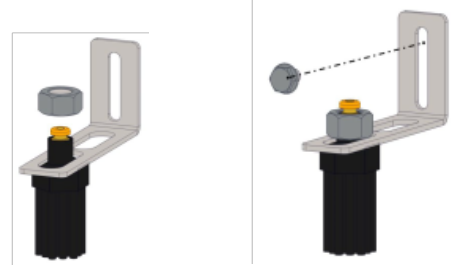

Figure 4
11. Place the brackets over the chain and on top of the sprocket. Using the bracket as a template, mark and drill one 7/32" holes. Secure the bracket with the self tapping screws. See figure 4
6. Install brushes on to the desired brackets using the 1/2-20 nuts (nuts should only be finger tight at this point as minor adjustment may be necessary). See figure 4
7. Place the brackets over the chain and on top of the sprocket. Using the bracket as a template, mark and drill one 7/32” holes. Secure the bracket with the self tapping screws. See figure 4